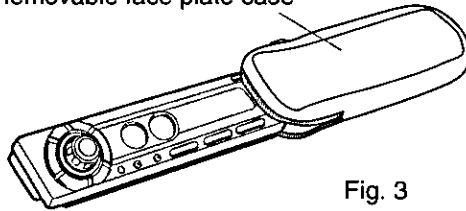

Fig. 3
c) Remove the unit pulling with both hands.(Fig.3)
- ④ As shown in Fig.3, keep the removable face plate in the case. Then, you can bring the plate safely.
⑦ Removable face plate case